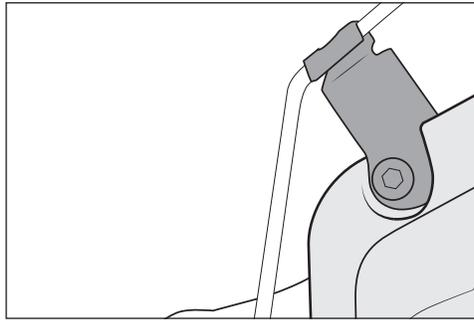

Figure 2
7. Re-Install bracket with final bolt M8 bolt (fig. 2).